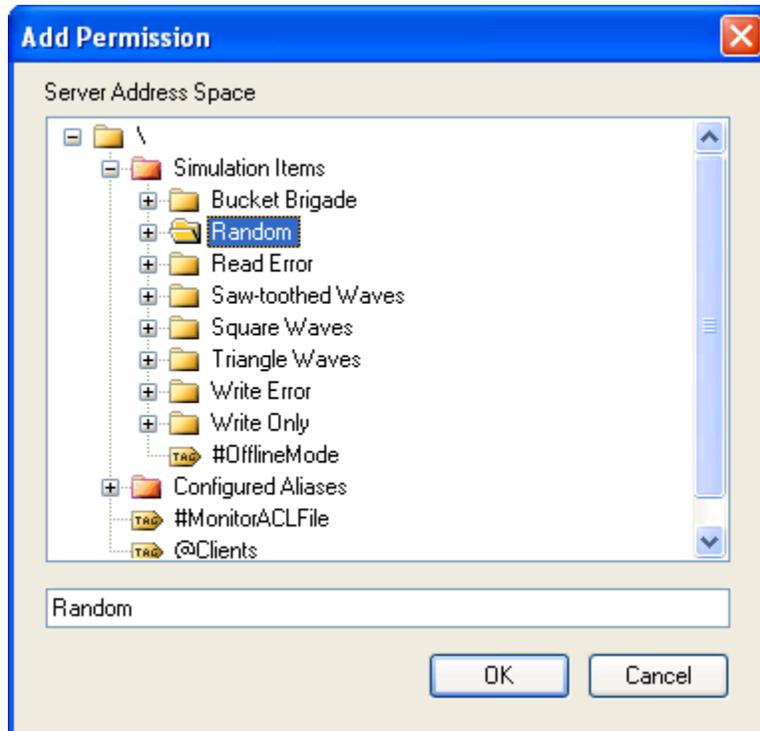

Figure 54 - Add Permission Window: Browsing Server Address Space
**Note:** Branches (i.e., folders) that are red in colour (see Figure 54) are not part of an item's path, but rather are used for browsing organization. Configuring permissions for adding, reading, and writing will not affect items below it. For more information, refer to Permissions.